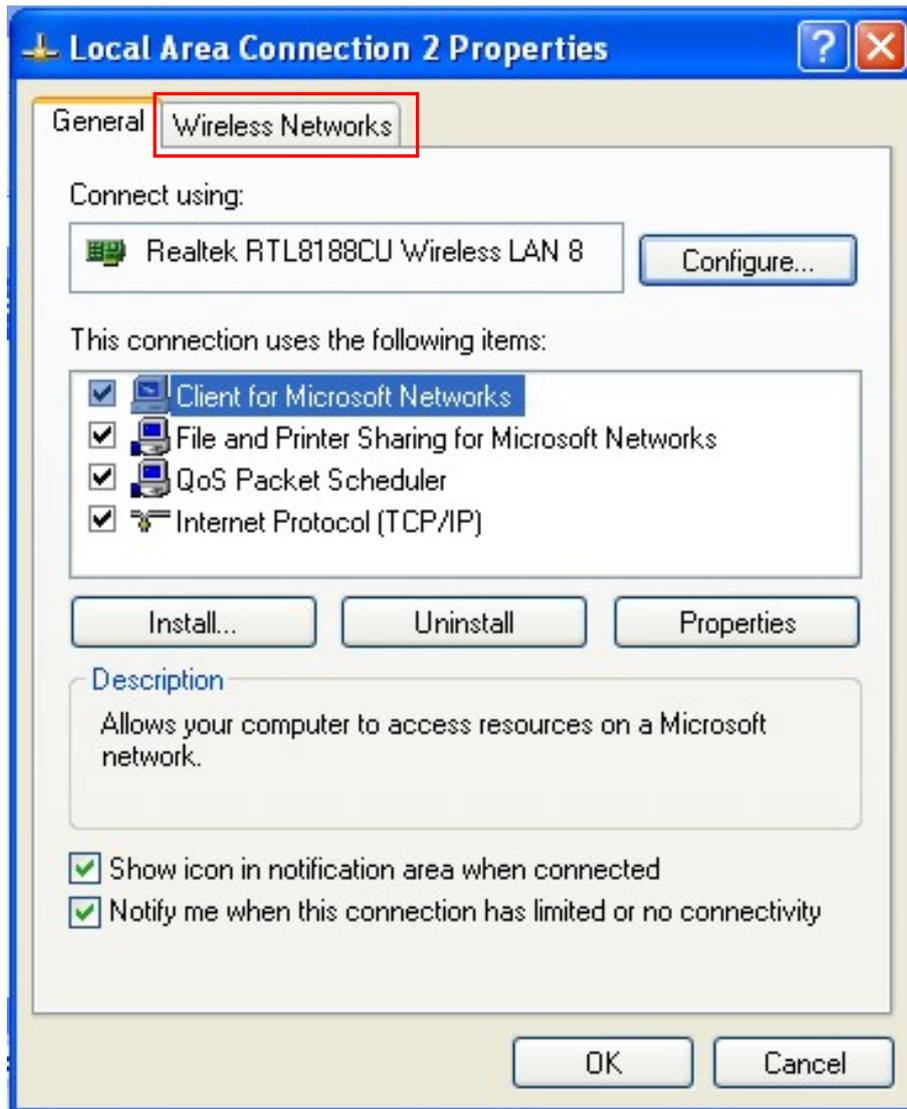

Figure 7
(2) When the window of "Local Area Connection 2 Properties" pops up, click "Wireless Networks" in the upper side of the window. (As shown in figure 7)